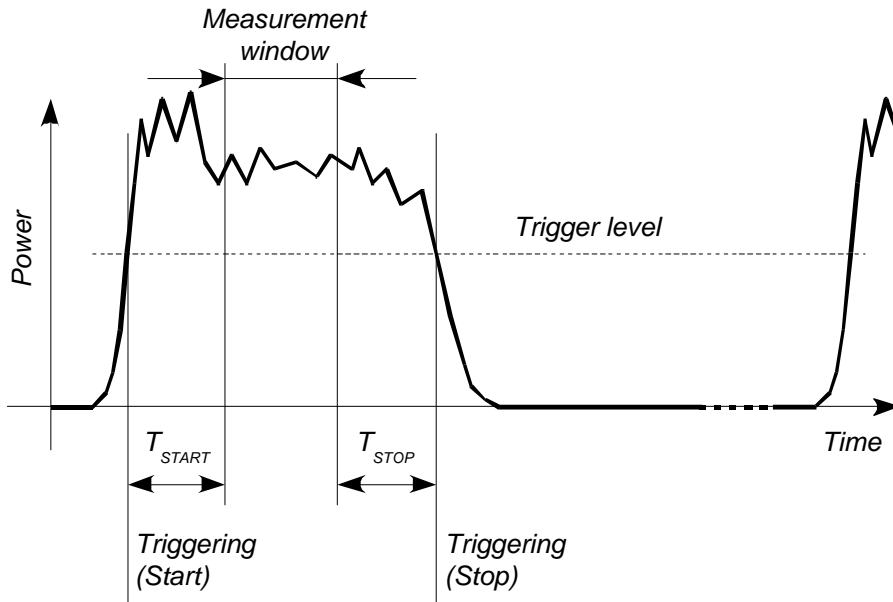
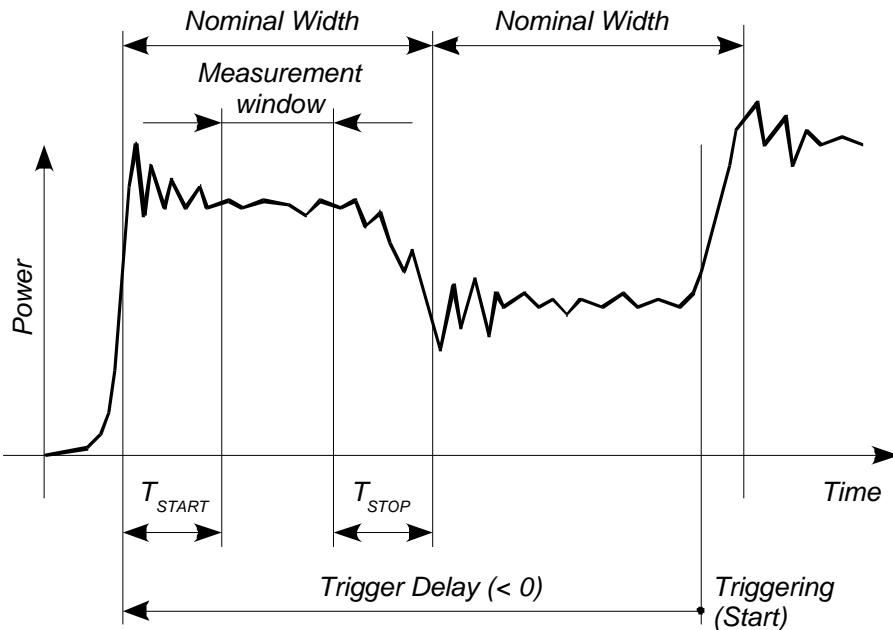

Fig. 6-2 Effect of SENSe:TIMing:EXCLude:START and :END in the Burst Average mode
Fig. 6-3 Effect of SENSe:TIMing:EXCLude:START and :END in the Timeslot mode
*SENSe:TIMing:EXCLude:STARt* defines the exclusion time at the beginning of the measurement window in the *Burst Average* (Fig. 6-2) and *Timeslot* (Fig. 6-3) modes.
SENSe:TIMing:EXCLude:STOP defines the exclusion time at the end of the measurement window in the Burst Average (Fig. 6-2) and Timeslot (Fig. 6-3) modes.